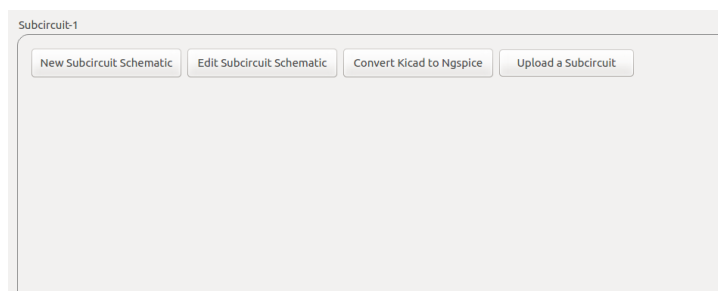

Figure 8.1: Subcircuit Window
Subcircuit is a way to implement hierarchical modeling. Once a subcircuit for a component is created, it can be used in other circuits. eSim provides an easy way to create a subcircuit. The following Fig. 8.1 shows the window that is opened when the SubCircuit tool is chosen from the toolbar.
2. Switch to the eSim main window and click on **Convert KiCad to Ngspice button** in the **subcircuit builder tool**. as shown in Fig. 8.1